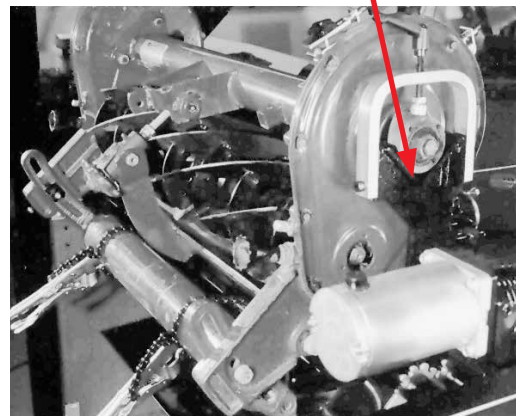

FIG. 28
C. On ground drive fairway mowers with exposed hubs, you should use the **OPTIONAL** Pull Gang Reel Mount Kit 18574. Normally the upper brackets will be positioned in the top two holes of the lower supports with the offset "V" facing toward rear of the machine. See FIG. 28.